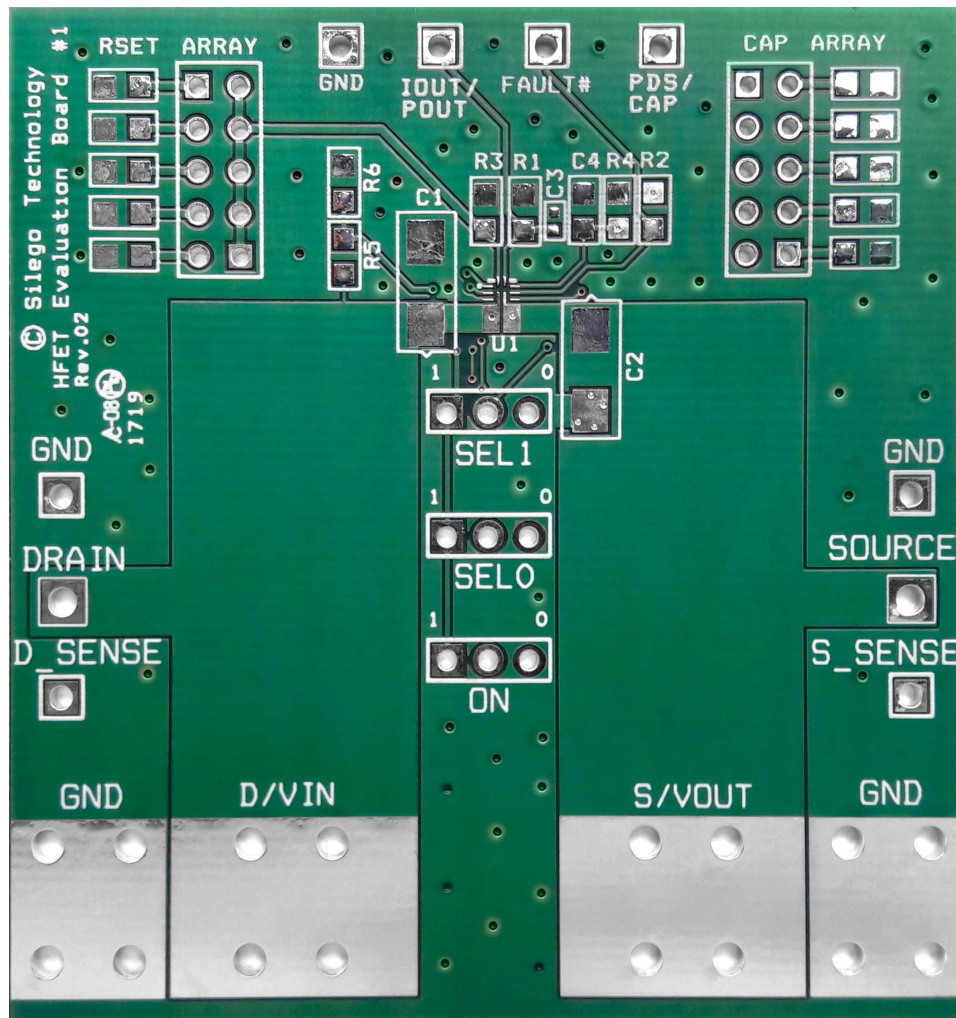

Figure 17. SLG59H1006V Evaluation Board
1. Since the VIN and VOUT pins dissipate most of the heat generated during high-load current operation, it is highly recommended to make power traces as short, direct, and wide as possible. A good practice is to make power traces with an absolute minimum widths of 15 mils (0.381 mm) per Ampere. A representative layout, shown in Figure 17, illustrates proper techniques for heat to transfer as efficiently as possible out of the device;
A High Voltage GreenFET Evaluation Board for SLG59H1006V is designed according to the statements above and is illustrated on Figure 17. Please note that evaluation board has D\_Sense and S\_Sense pads. They cannot carry high currents and dedicated only for  $R_{DS_{ON}}$  evaluation.